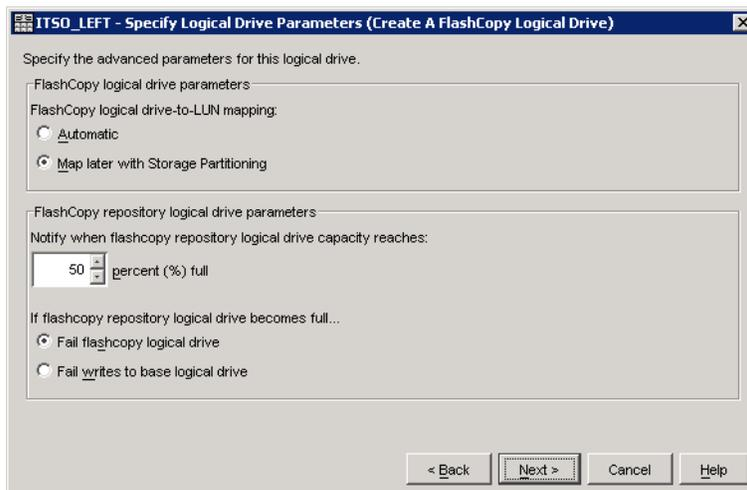

Figure 7-19 Create FlashCopy logical drive: Specify parameters
- d. The Specify Logical Drive Parameters window (Figure 7-19) opens. Define the FlashCopy logical drive-to-LUN mapping parameter and the FlashCopy repository logical drive full conditions. For more information about this, see “FlashCopy failure policy” on page 405. Click the **Next** button.